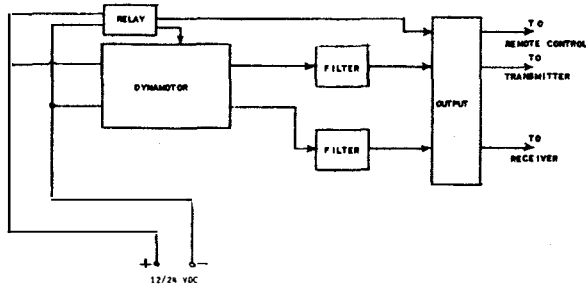

Fig. 2-36 Type -211330-B Single Dynamotor Power Supply—Block Diagram
c. The Type -211330-B Power Unit (see figures 2-36, 2-37, 2-38, 2-39) is designed for operation with Model TCS Series Radio Equipment where a 12- or 24-volt D.C. source of power is available. The unit furnishes filament and plate power for both the receiver and transmitter of the Model TCS equipment.